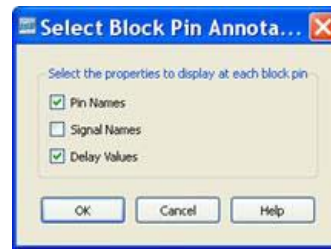

Figure 6-9: Select Block Pin Annotation Button
- In the following dialog box, check the **Delay Values** option. Check the **Pin Names** option as shown in Figure 6-9.